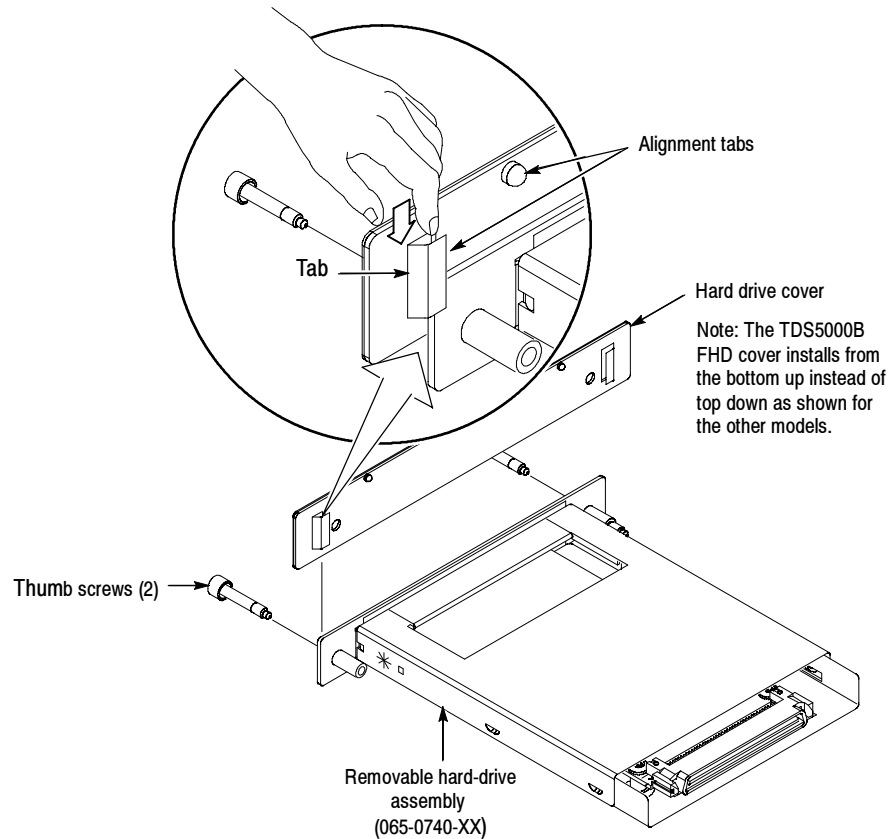

Figure 1: Attaching a cover
2. Slide the appropriate hard drive cover for your instrument onto the hard drive assembly. See Figure 1.